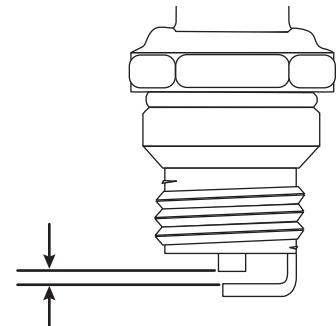

Fig. 20
6. Use a feeler gauge to set the air gap at **0.025 in. (0.635 mm)** (Fig. 20).